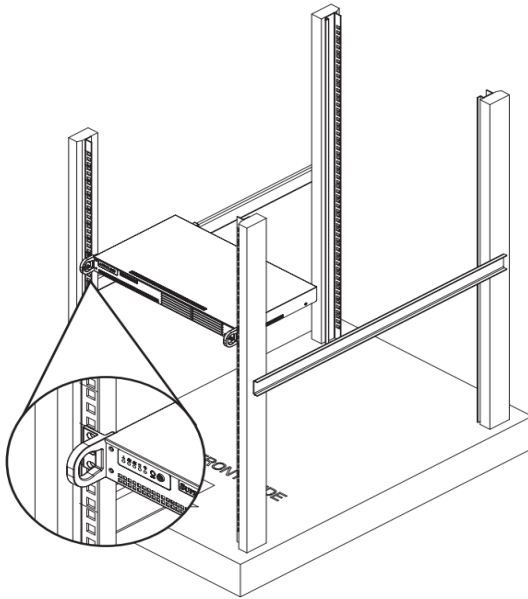
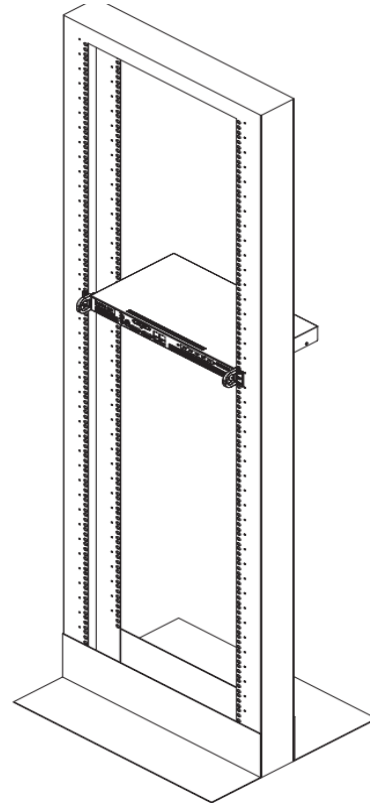

Figure 4-1: Install Chassis to Standard Rack
Figure 4-2: Install Chassis to Telco Rack
NOTE: *The illustrations in Figure 4-1 and Figure 4-2 are for general guidance purposes only. Always install the Device chassis to the bottom of the rack first to avoid the rack becoming top heavy.*
3. Insert the mounting screws into the thru holes in the front of the chassis and through the thru holes in the rack as shown in Figure 4-1 and Figure 4-2.